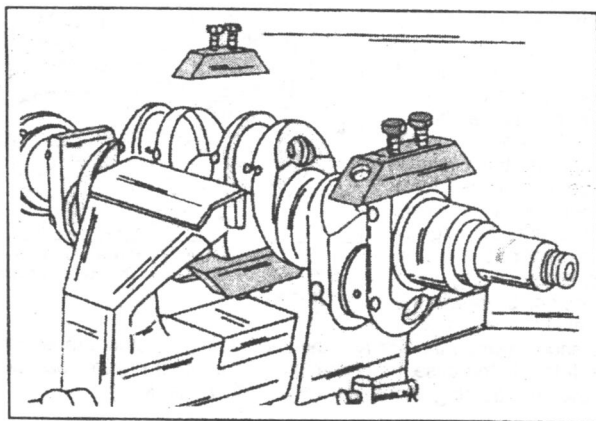

Fig. 1.24. — The crankshaft counter weights are secured to the crankshaft as shown. Mark each counter weight for installation position before removal.
- If work is to be carried out on the crankshaft remove the counter weights. These are attached as shown in Fig. 1.24. Plugs are fitted to the crankshaft throws and can be removed with an Allen key of suitable size to clean the oil galleries. In the end of the crankshaft (flywheel side) you will find a pilot bearing for the clutch shaft. A puller is required to withdraw the bearings.